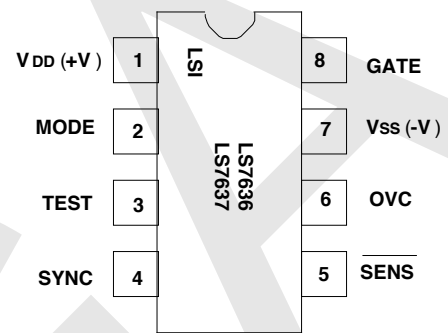

FIGURE 1
- **LS7636, LS7637** (DIP); **LS7636-S, LS7637-S** (SOIC); **LS7636FO, LS7637FO** (DIP); **LS7636FO-S, LS7637FO-S** (SOIC) - See Figure 1 -